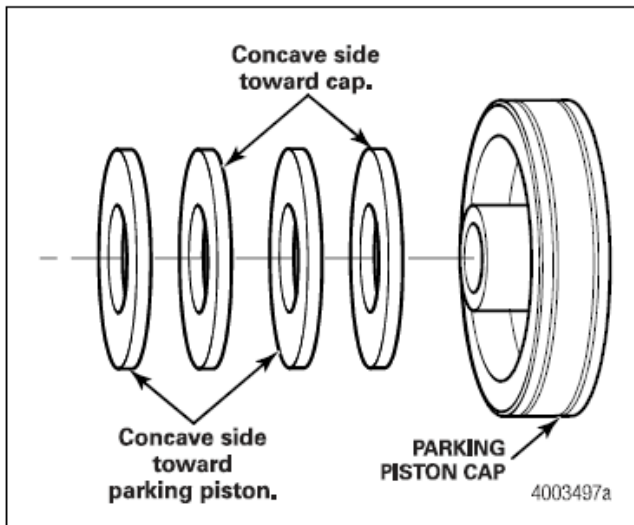

Figure 5.12
30. Install four spring washers onto the surface of each parking piston. Figure 5.12.